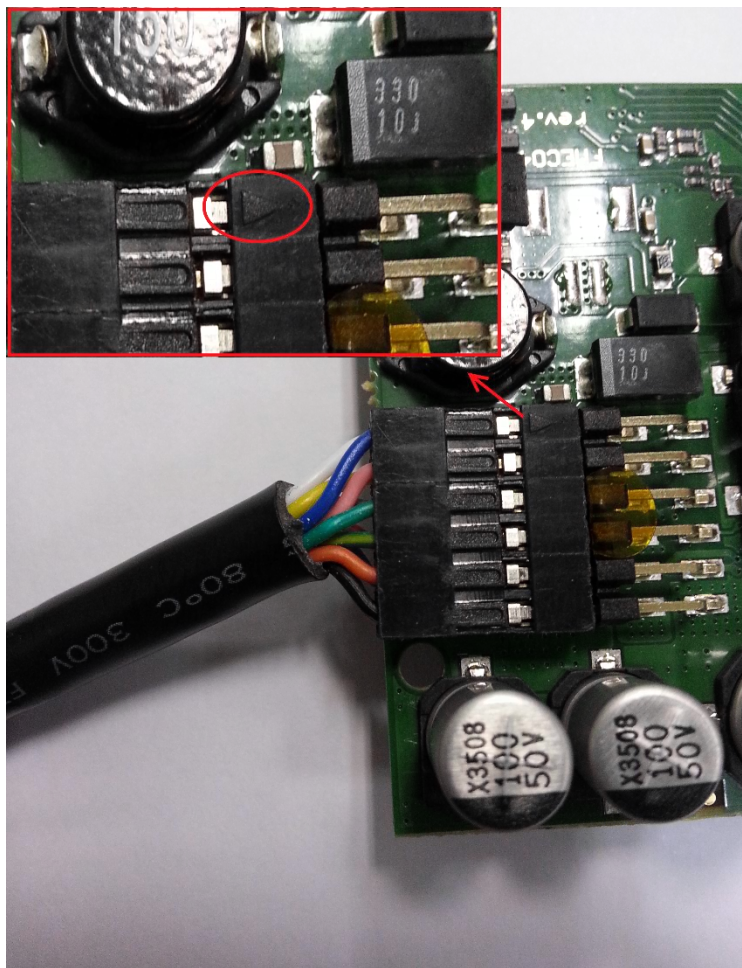

Figure 7. IO cable correct connection
4. On IO cable find small **triangle** (see figure 7)